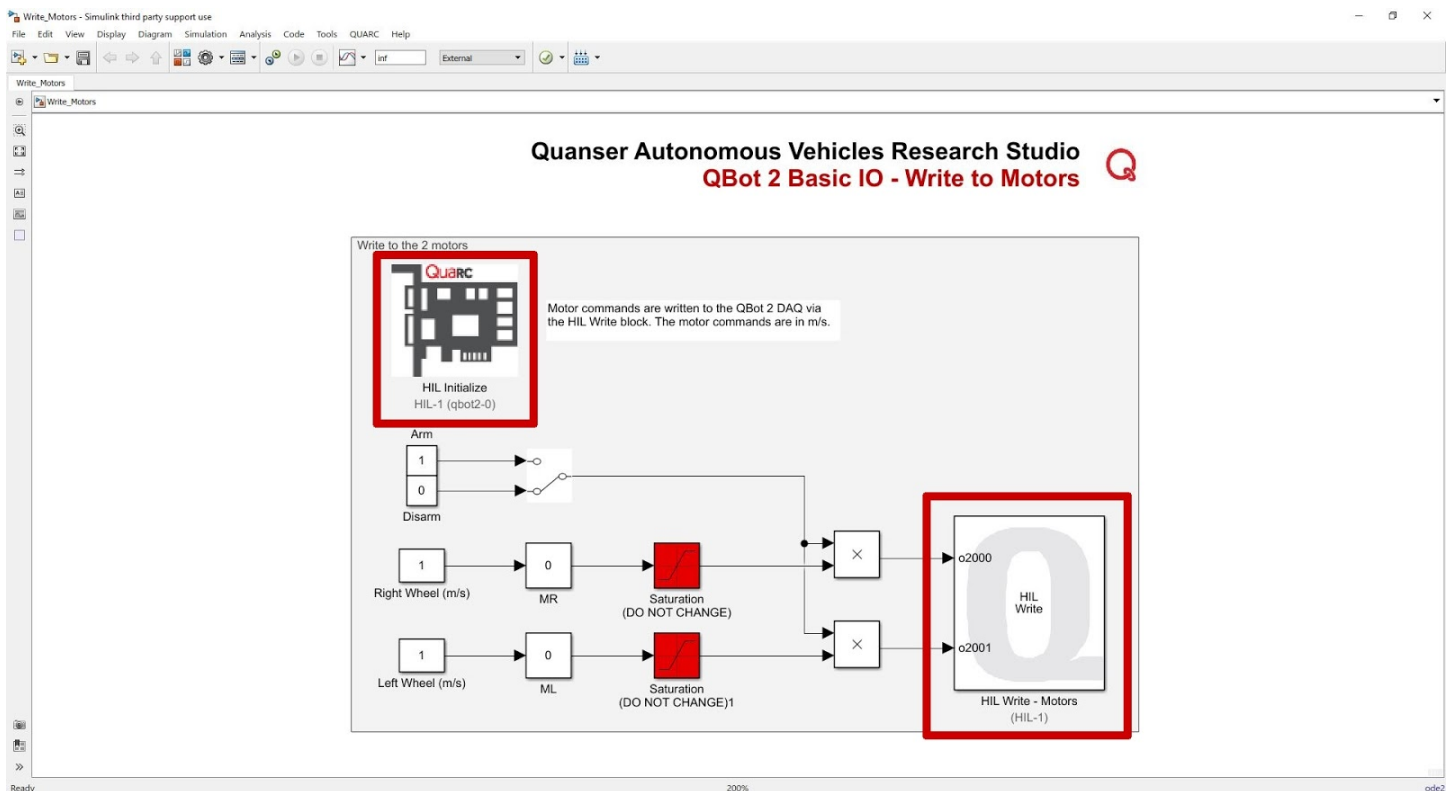

Figure 1: Write_Motors.slx model, highlighting the HIL Initialize and HIL Write blocks
1. Under the Guides and Resources > Basic IO > QBot 2 > Software folder, open Write_Motors.slx (Figure 1)
7. Double click on the slider gains labelled MR and ML and slide them between -0.7 and 0.7 m/s to change each motor's speed. These values are written to the QBot 2's motors via the HIL Write Block, where the channels are configured in the HIL Initialize block (Figure 1).